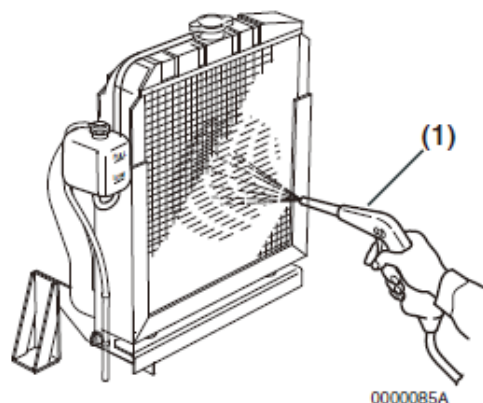

Fig.9-11
Blow off dirt and dust from fins and radiator with 28 psi (0.19 MPa, 2 kgf/cm²) or less of compressed air (**Fig.9-11, (1)**). Be careful not to damage the fins with the compressed air. If there is a large amount of contamination on the fins, apply detergent, thoroughly clean and rinse with tap water.